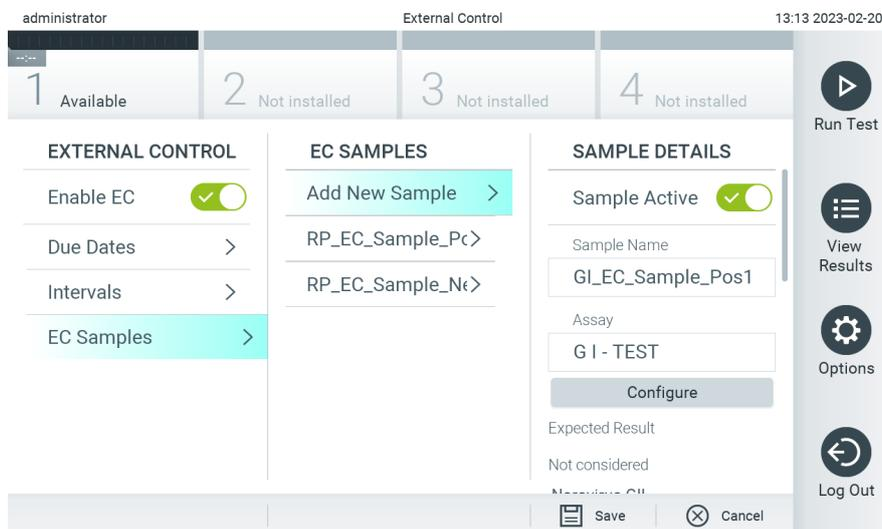
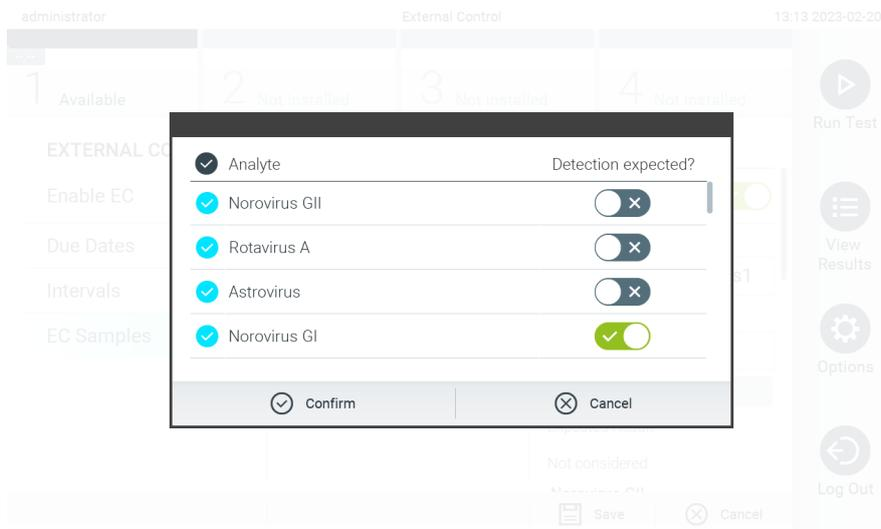

Figure 79. External Control EC Samples screen.
Figure 80. External Control EC Sample configuration screen.
5. Select **EC Samples** to add or edit samples which are used in an External Control test. To add a new EC Sample, press **Add new Sample** and then continue with the configuration in the right column (Figure 79). To edit an EC sample, select an existing one from the middle column and continue with the configuration in the right column.
6. Select **Configure** to edit the analytes in an External Control test (Figure 79). In the External Control EC Sample configuration, it can be determined whether an analyte is considered for the External Control EC run and whether a detection is expected (Figure 80).